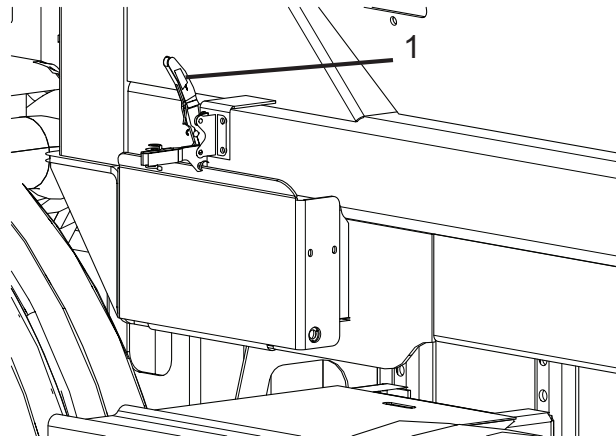

Figure 7
2. Pull the top lever down, which will push the bottom lever up (Figure 7, Item 1).